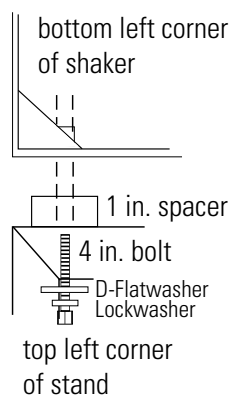

Figure 1-13. Shaker To Stand
- Carefully lift and position the unit over the spacers on the stand. Align the (4) connection point holes in the bottom of the unit with the (4) spacers and holes in the stand. (Helpful hint: Use masking tape around outside edge of spacers to hold in place during installation. Remove tape after installation.)
- Assemble the lockwashers, then the D-shaped flatwashers onto the ½”-13 x 4” bolts. Then thread the bolts through the underside of the stand top rails, through the spacers and into the holes in the bottom of the unit. Tighten these bolts to secure the shaker to the stand. Refer to Figure 1-13 and 1-14.